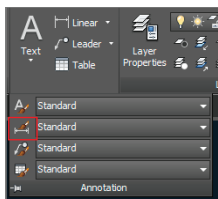

FIGURE 11.2
1. Select the Home tab on the ribbon if it is not already selected. Expand the Annotation panel, and click the Dimension Style button (see Figure 11.2).